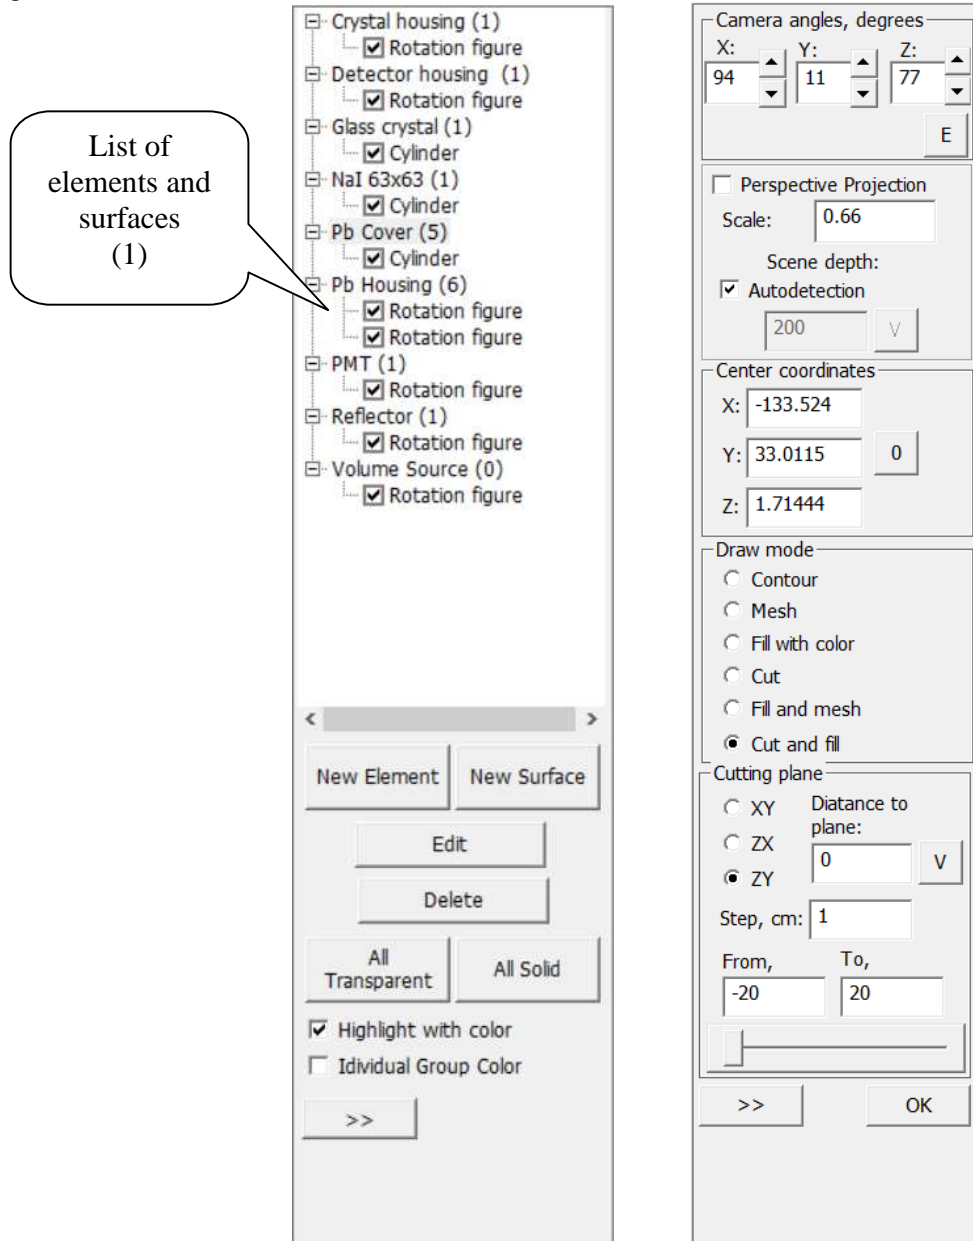
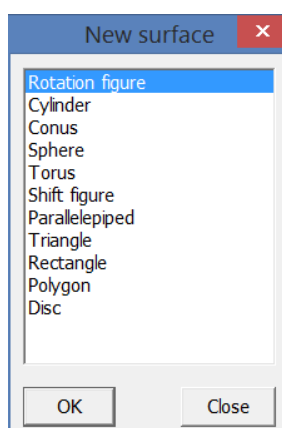

Figure 6. View of the panel of work with elements
Figure 9. The surface selection window for an element
The panel has two tabs, switching between which is carried out by pressing the button  (Fig.6).
**List of elements and surfaces** (Fig.6, block 1) – contains a list of the names of the elements and their constituent surfaces, which together determine the content of the current project. Control access to the parameters of each surface in the element can be obtained by double-clicking the left mouse button on the name of the surface. In case you need to hide the surface remove the check mark before the name of this surface.
To create an element of modeling geometry, click on the **New element** button located on the **Panel of work with elements** (Fig. 6) on the right side of the main program window.
In the dialog box that appears, you must enter the name of the new element and the number of the group to which the element should belong (if necessary). After pressing the **OK** button in the list of elements (see Fig. 6, block 1) a line with the new element name should appear, and a new dialog box will appear immediately, in which the user must select the surface type (primitive) (Fig.9).
To add a Rotation figure, you must select the type of the **Rotation figure** in the surface selection window (see Fig.9).